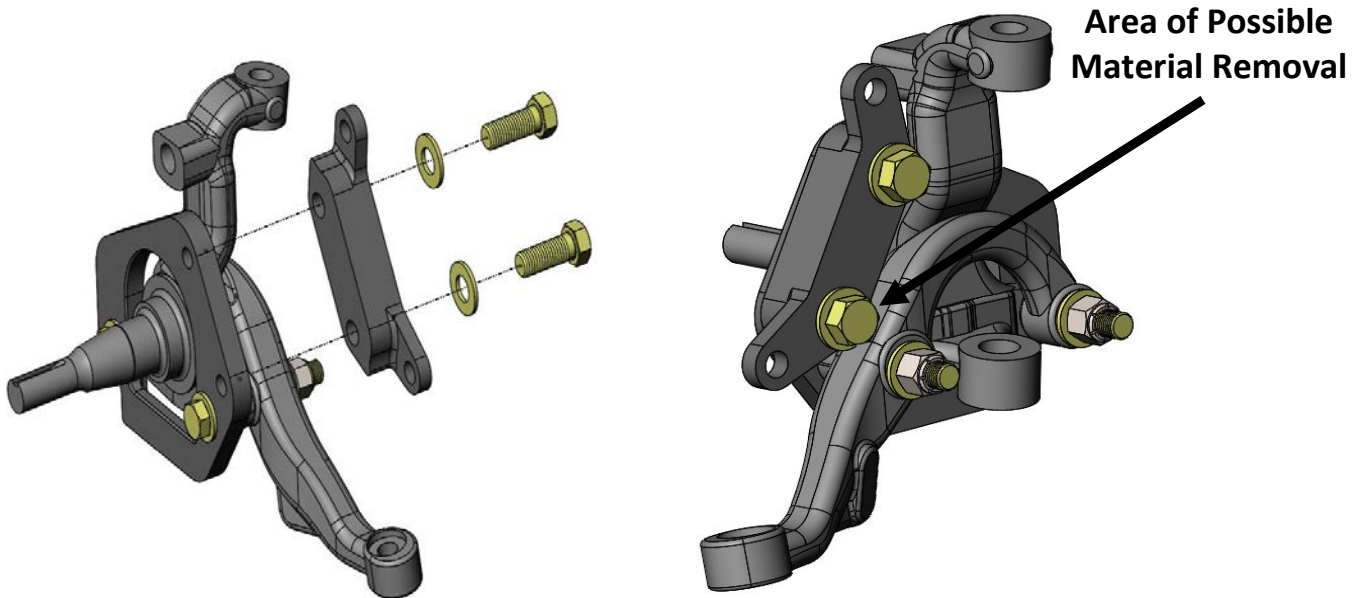

Figure 3 – Secondary Caliper Bracket Installation (Driver Side F-Body Spindle/Steer Arm Shown Above)
6. Install the Secondary Caliper Mounting bracket on the Primary Caliper Mounting bracket. Using the provided 9/16"-12 x 1-1/2" Grade 8 Hex Head Bolts and 9/16" SAE Flatwashers and install the bracket. It is not necessary to torque the bolts at this time as they will be removed later for caliper alignment. **IMPORTANT:** It may be necessary to remove material from the steer arm due to inconsistency in the steer arm castings. If necessary, remove only enough material to leave a small gap between the steer arm and the bracket. It may be possible to remove material from one side of the vehicle and not the other. See Figure 3 on the next page for assembled spindle with brackets along with area for removal.